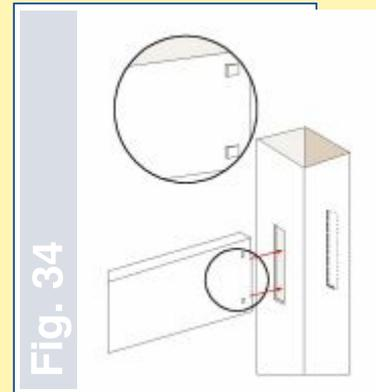

Fig. 34
- put a crosspiece in the upper milled hole in accordance with direction shown in Fig. 34 until you hear locking of snap fasteners